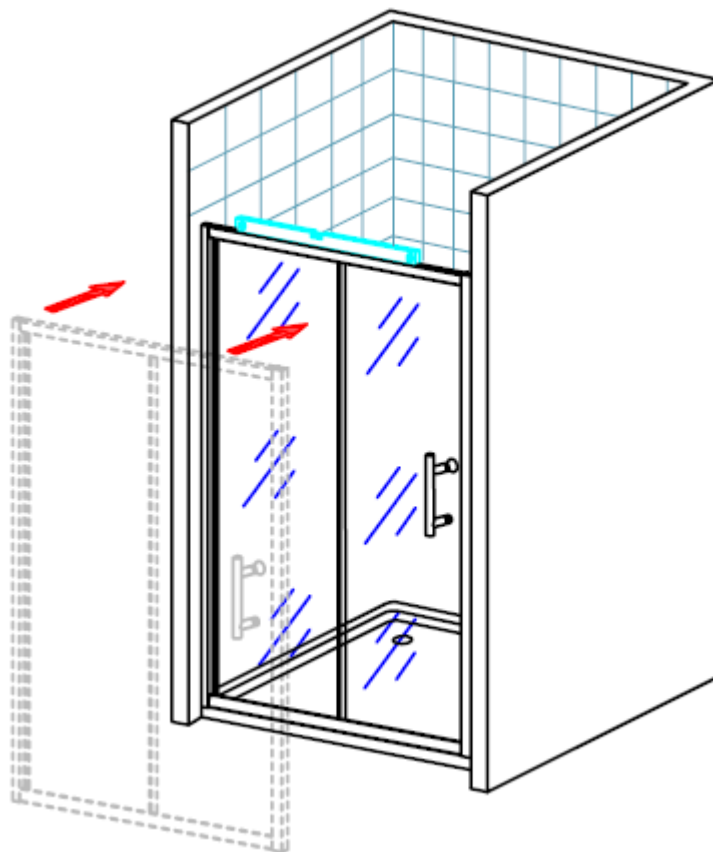

Figure 10
10. Moving the whole set to the wall frame,as showed in figure 10